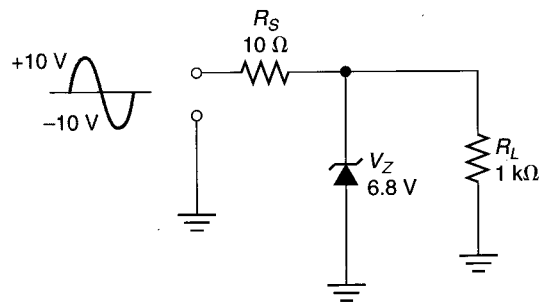

FIGURE 4.53
45. The circuit shown in Figure 4.53 is a *zener clipper*. Using your knowledge of diode operation, determine the shape of the circuit output waveform and its peak values.